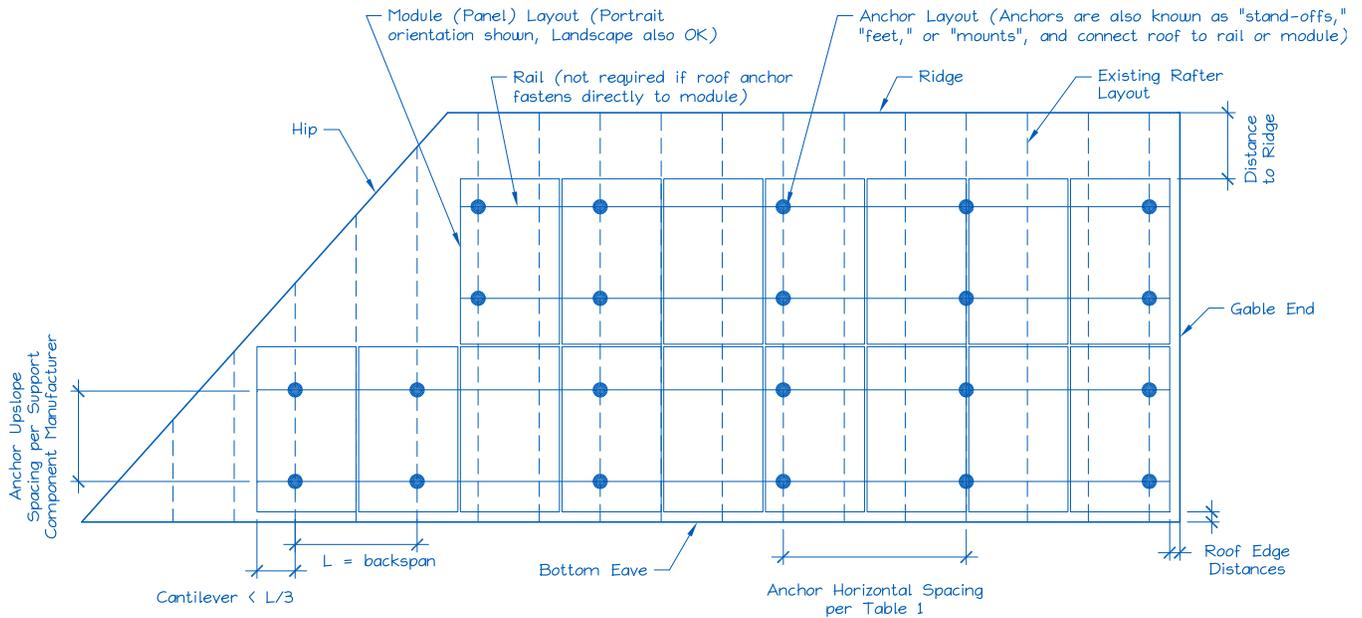

Figure 1. Sample Solar Panel Array and Anchor Layout Diagram (Roof Plan).
E. Is a roof plan of the module and anchor layout attached? (see Figure 1)
- 1) Proposed anchor horizontal spacing (see Figure 1): _____' - _____"ft-in
1. Anchors are also known as “stand-offs”, “feet”, “mounts” or “points of attachment”. Horizontal anchor spacing is also known as “cross-slope” or “east-west” anchor spacing (see Figure 1).